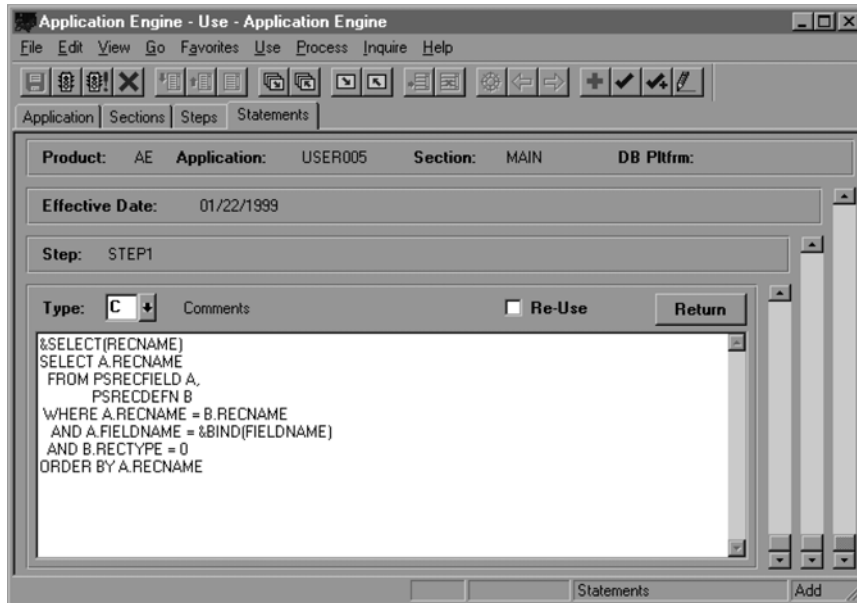

Figure 40.5 DO Select statement with Comment statement type
Step1 of our MAIN section in this exercise is identical to Step1 of the MAIN section of exercise 4. We did learn a small lesson in the last exercise. When using a DO Select statement type, a DO section needs to be defined in order to save the record. We need to create the new section. For now, let's change the statement type to Comment (figure 40.5). Now, save your work.